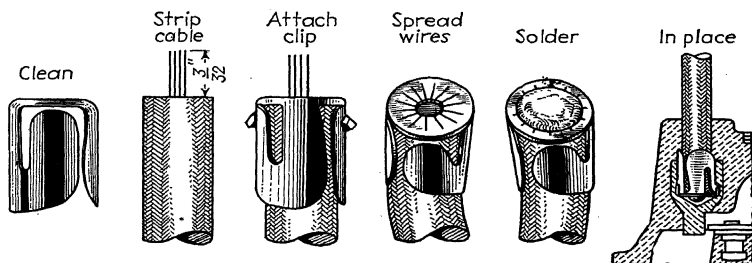

Fig. 17.—A method of soldering spring clips to cable ends to ensure good contacts.
**Ignition Cable Connections.**—It is important that a good contact be secured between the magneto and the ignition wire leads. Spring clips should be soldered to the ends of the cable wires. Be sure the metal of the clip is clean as shown in Fig. 17. Strip the end of the cable clear of insulation for about  $\frac{3}{8}$  in. Push the bare wires through the hole in the clip, as shown. Spread the wires out across the end of the clip, and then solder the wires to the end of the clip. Then, when the end of the cable is pushed into the magneto terminal, as shown at the right, there will be no question as to having a good contact.